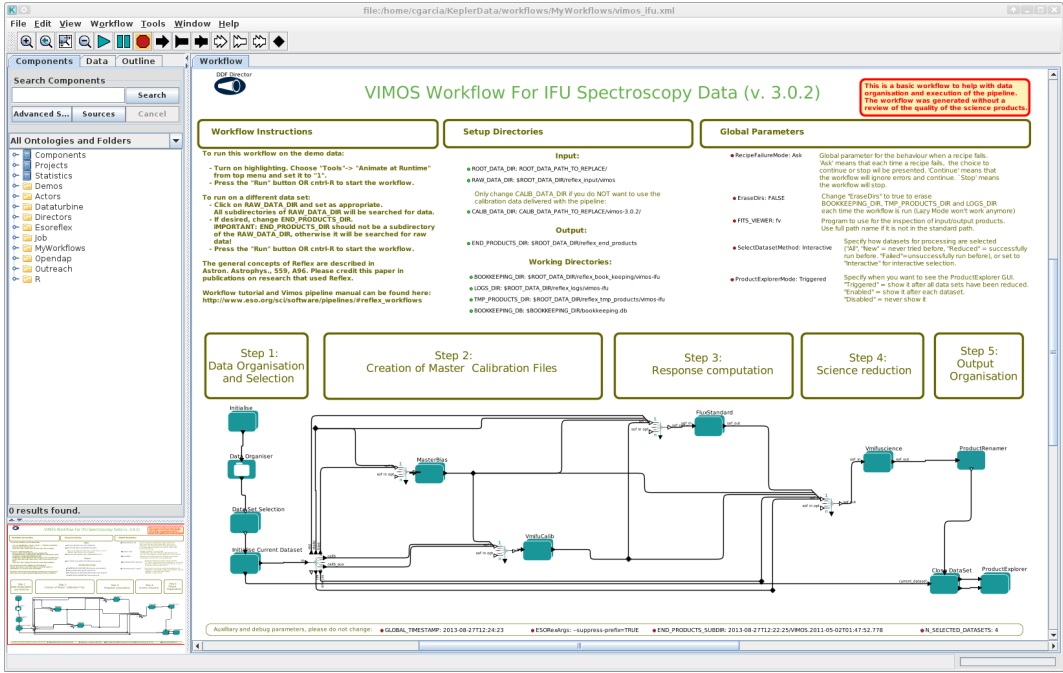

Figure 4.2: *VIMOS/IFU workflow general layout.*
2. Now open the VIMOS workflow by clicking on File -> Open File, selecting first vimos-3.0.4 and then the file VimosIfu.xml in the file browser. You will be presented with the workflow canvas shown in Figure 4.2. Note that the workflow will appear as a canvas in a new window.